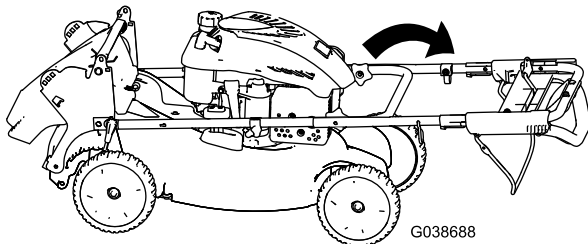

Figure 22
3. Rotate the entire handle forward (Figure 22).